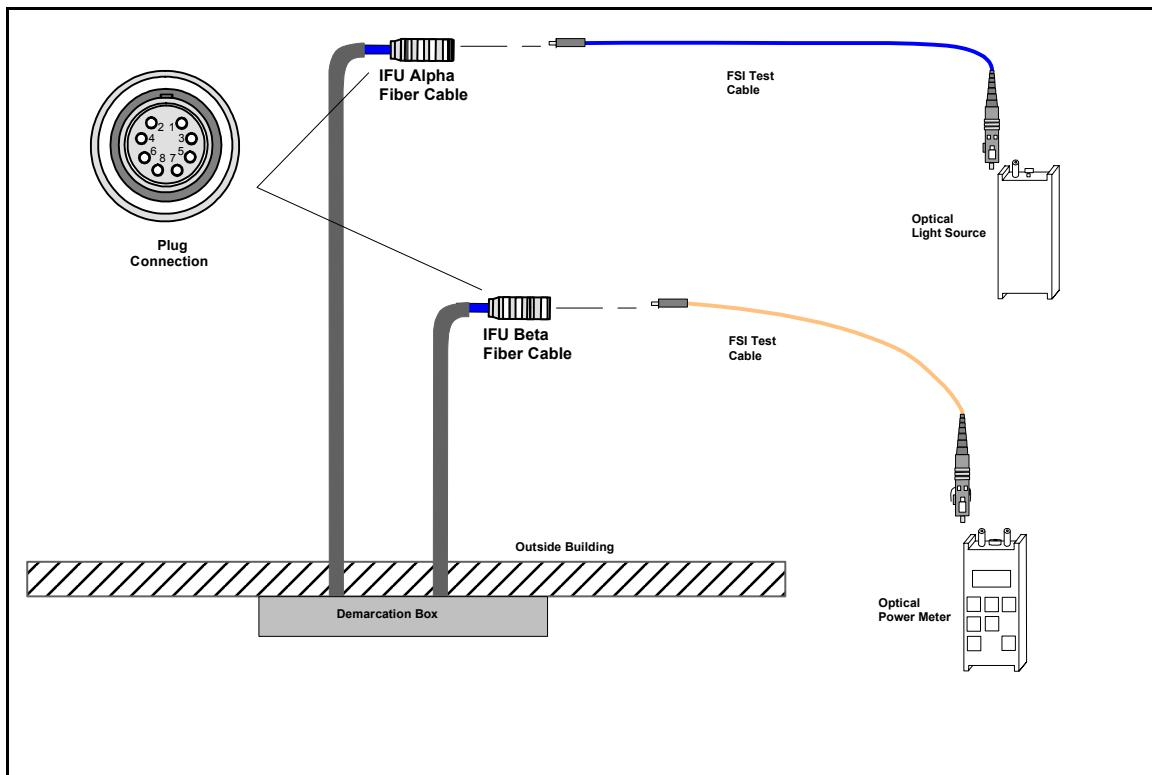

Figure 3-9. SONET OC-3 Fiber Optic Continuity Test Setup
- 2 Connect the optical power meter to the IFU Beta test adapter (see Figure 3-9 and Table 3-6).